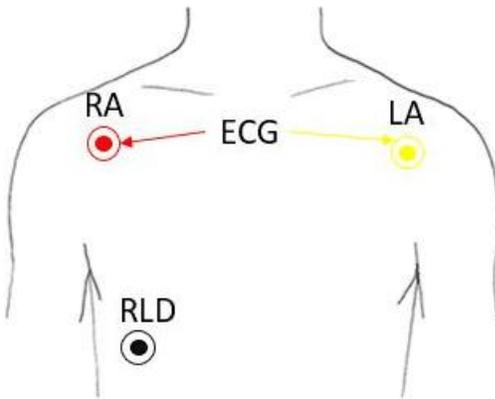

Figure 27. ECG Electrodes: RA (Red), LA (Yellow), RLD (Black)
- ▶ Ensure the RA, LA, and RLD electrodes are placed securely, as shown in Figure 27.